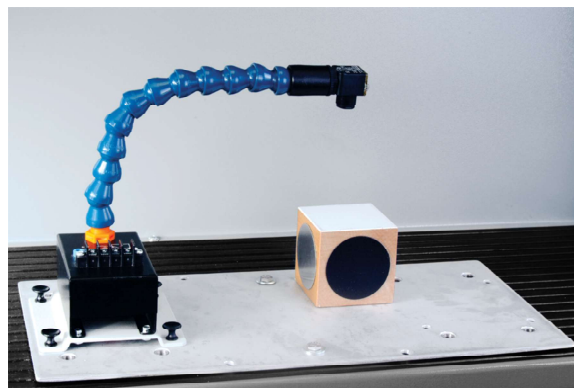

Figure 11. Circuit using the Background Suppression Photoelectric Switch.
1. Set up the circuit shown in Figure 11.